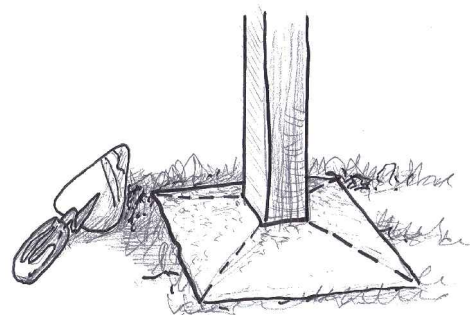

FIGURE 5
STEP 5 CONCRETING IN POSTS (Figure 5)